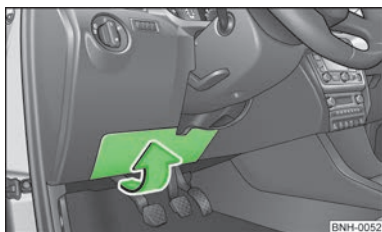

Fig. 121
- Carefully remove the cover in the direction of the arrow » Fig. 121.